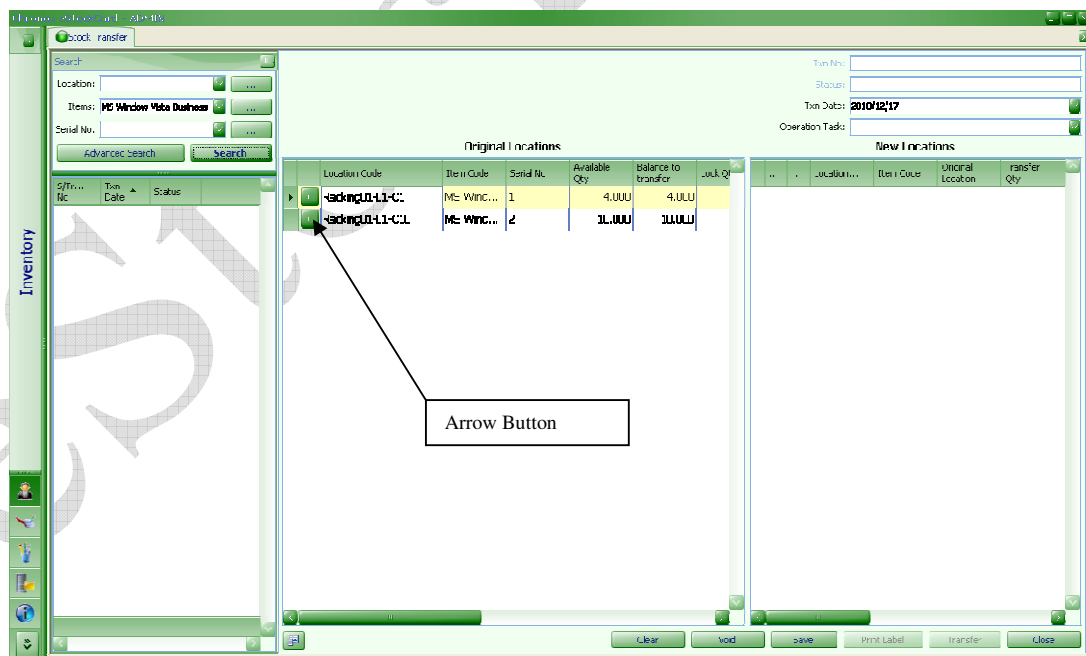

Fig. 71
3. To move the item to new location, click on the Arrow Button for the respective row. (Fig. 71)